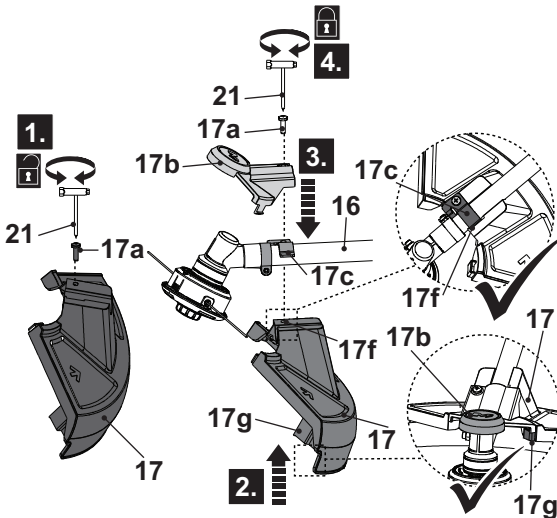

Fig. 3
1. Remove the bolt (17a) from the guard (17) by using the supplied multi tool (21) and keep it handy (Fig. 3, step 1).
2. Align the guard (17) with the guard support (17c) on the lower pole (16) and keep it in place (Fig. 3, step 2).
3. Align the guard cover (17b) with the guard support (17c) on the lower pole (16). Ensure that the sheet metal of the guard support (17c) is fully inserted the slot (17f). Ensure the clip of the guard cover (17b) is pressed through the buckle (17g) of the guard (17) with an audible click sound (Fig. 3, step 3).
4. Make sure that the screw holes on guard (17), guard support (17c) and guard cover (17b) are well aligned.
5. Secure the connections with the bolt (17a) clockwise by using the supplied multi tool (21) (Fig. 3, step 4).